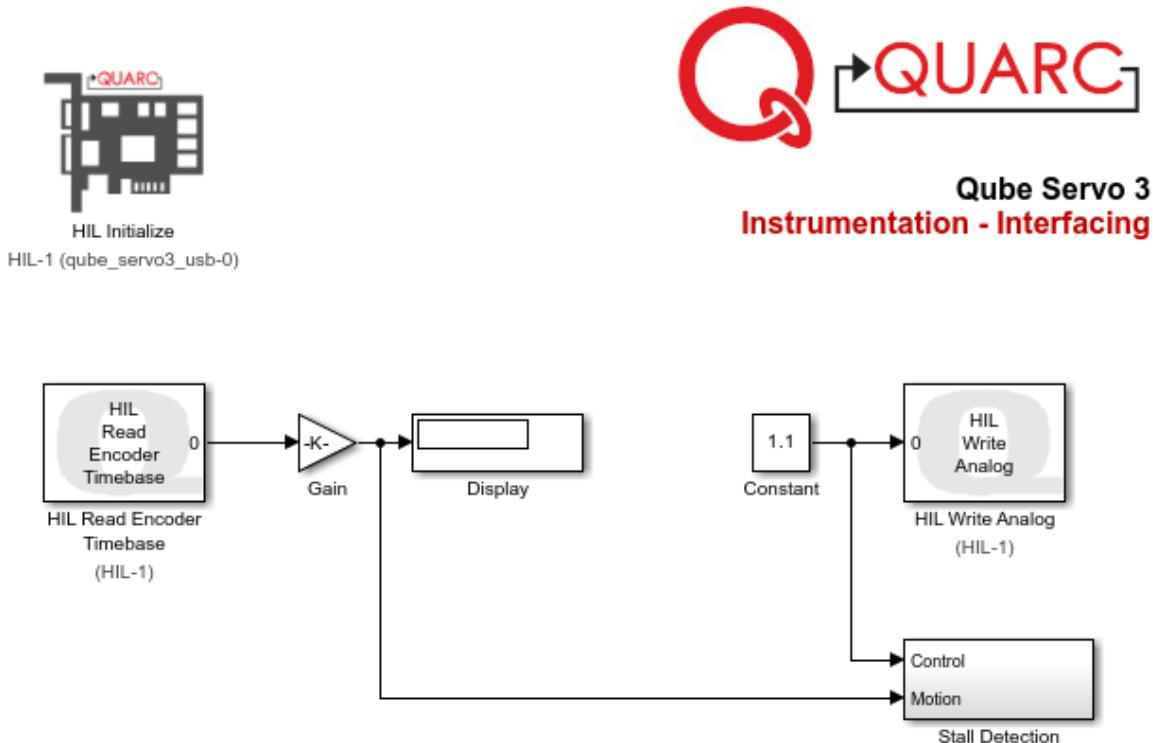
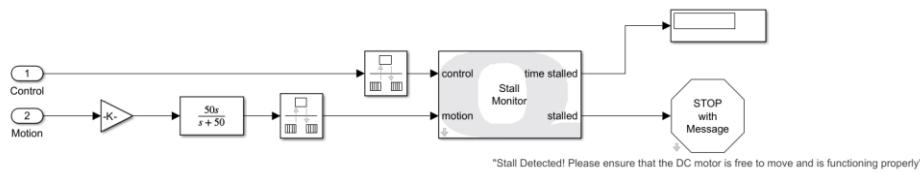

Figure 1. Simulink model used with QUARC to drive motor and read angle on Qube-Servo 3
Figure 4. Stall Detection subsystem
In this lab, we will make a **Simulink** model using **QUARC** blocks to drive the DC motor and then measure its corresponding angle – as shown in Figure 1.
3. Connect the **HIL Read Encoder Timebase** block as shown in figure 1, the **HIL Write Analog** should be missing.
2. Connect the **Constant** and **HIL Write Analog** blocks together, as shown in Figure 1. **Note:** There is a **Stall Detection** subsystem in Figure 1 and Figure 4. This block will monitor the applied voltage and speed of the DC motor to ensure that it does not stall. If the motor is motionless for more than 20 seconds with an applied voltage of over  $\pm 5$  V, the simulation is halted to prevent the Qube-Servo 3 from overheating and subsequent potential damage to the motor.